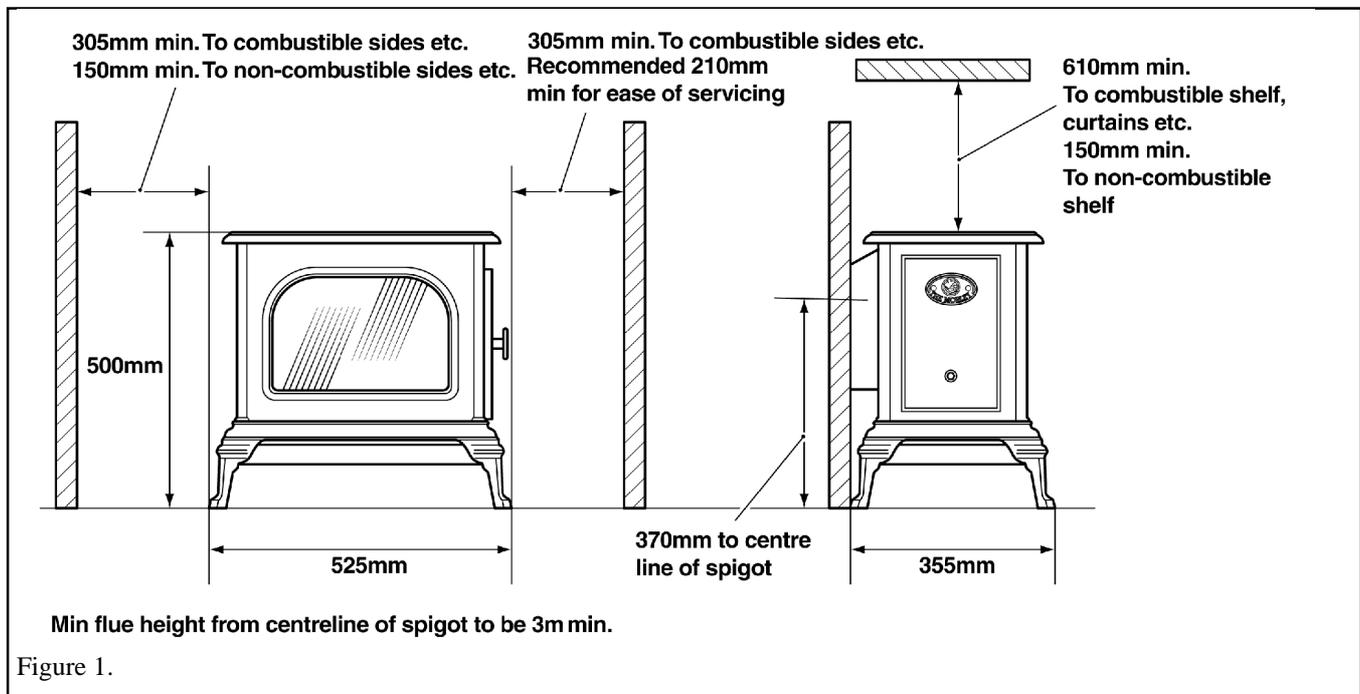

Figure 1.
4. Clearances to combustible and non-combustible surfaces must be at least those shown in figure 1. Please bear this in mind if altering the room.